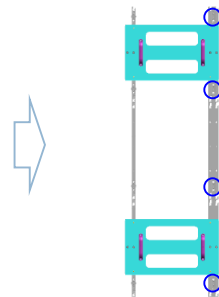

Fig3. Fastening the screws
- ※ Lastly, fasten the screws to fix the ⑥ Bracket Middle to the wall. (See Fig.3.)